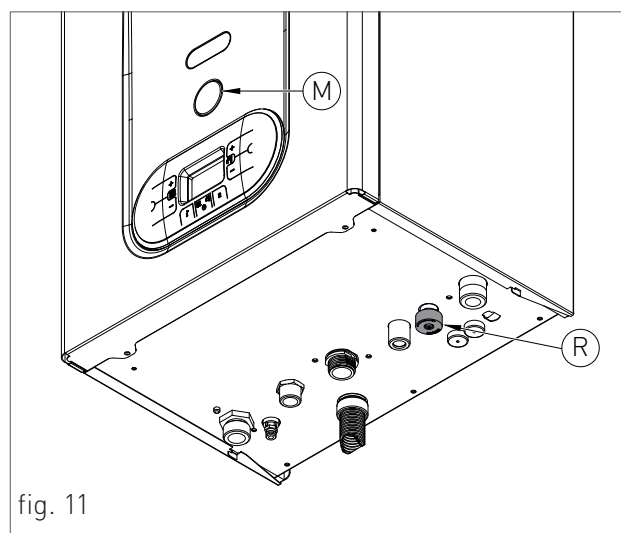

fig. 11
4. Open the feeding tap "R" (fig. 11);
6. Use pressure gauge "M" (fig. 11) to make sure that the system pressure reaches 1.2 bar (fig. 13);
7. After performing this operation, make sure that the loading tap "R" (fig. 11) is properly closed.